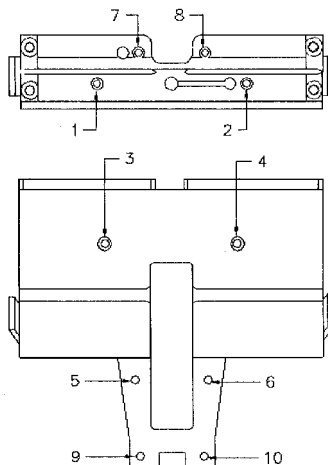

Figure 6
25. Tighten the Facia Retaining Screws in the order shown in Figure 6.